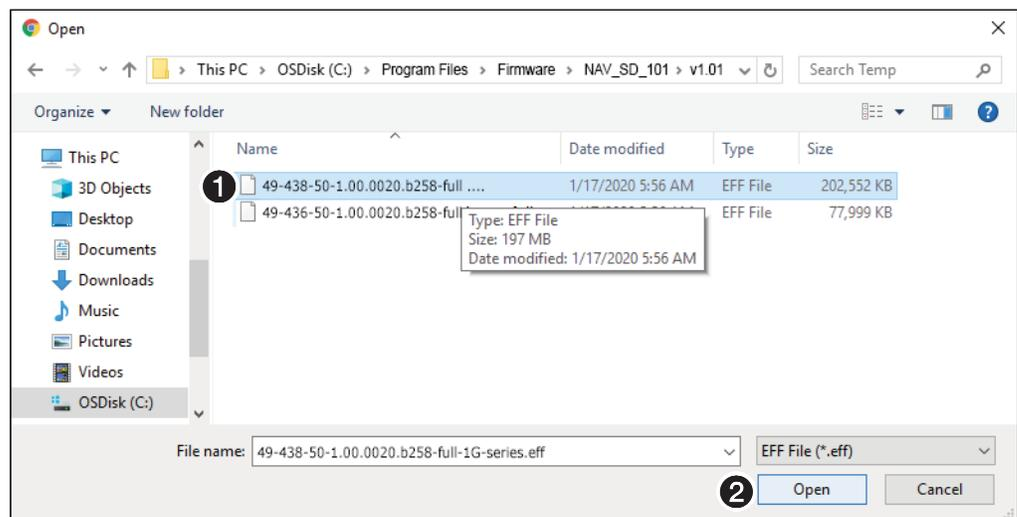

Figure 25. Open Dialog Box
2. Click **SELECT FILE** (❷). An Open dialog box opens (see figure 25).
3. Navigate to the folder where you saved the firmware upgrade file (see figure 25, ❶) and select the file.